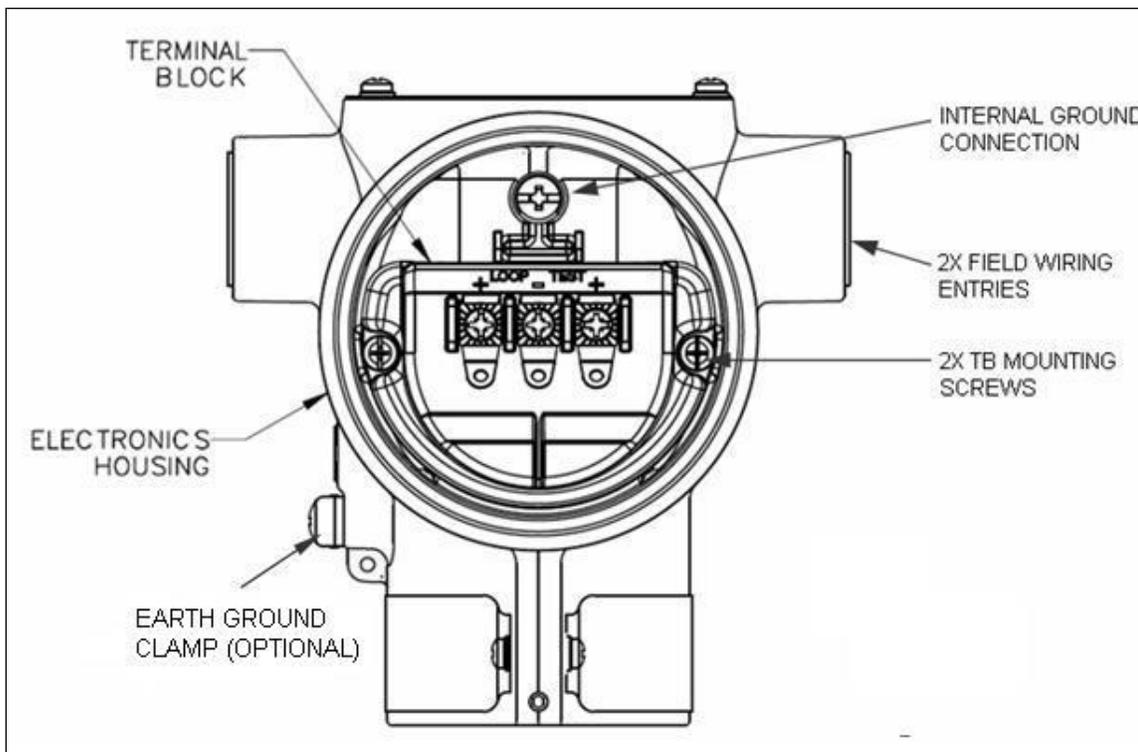

Figure 15 – ST 700 Standard Transmitter - 3-Screw Terminal Board and Grounding Screw
Loop wiring is connected to the Transmitter by simply attaching the positive (+) and negative (-) loop wires to the positive (+) and negative (-) terminals on the Transmitter terminal block in the Electronics Housing shown in Figure 15.
As shown in Figure 15, each Transmitter has an internal terminal to connect it to earth ground. Optionally, a ground terminal can be added to the outside of the Electronics Housing. While it is not necessary to ground the Transmitter for proper operation, doing so tends to minimize the possible effects of noise on the output signal and affords protection against lightning and static discharge. An optional lightning terminal block can be installed in place of the non-lightning terminal block for Transmitters that will be installed in an area that is highly susceptible to lightning strikes.
1. See Figure 15, above, for parts locations. Loosen the end cap lock using a 1.5mm Allen wrench.
If your Transmitter includes the optional lightning protection, connect a wire from the Earth Ground Clamp (see Figure 15) to Earth Ground to make the protection effective. Use a size 8 AWG or (8.37mm²) bare or green covered wire for this connection.